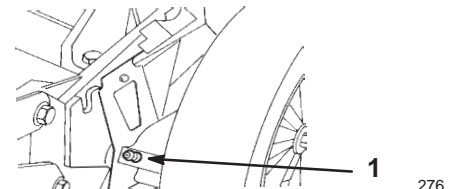

Figure 29
1. Wipe the grease fittings on the rear cutting height levers with a clean rag (Fig. 29).